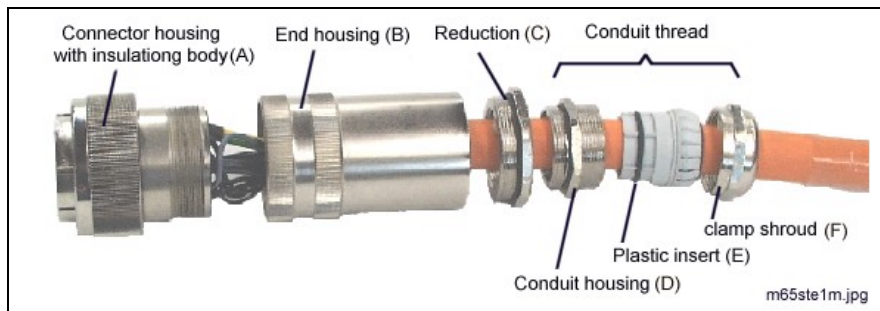

Fig. 2-73: Individual parts of connector INS0381, -0382, -0386
1. Take connector apart (see Fig. 2-73).